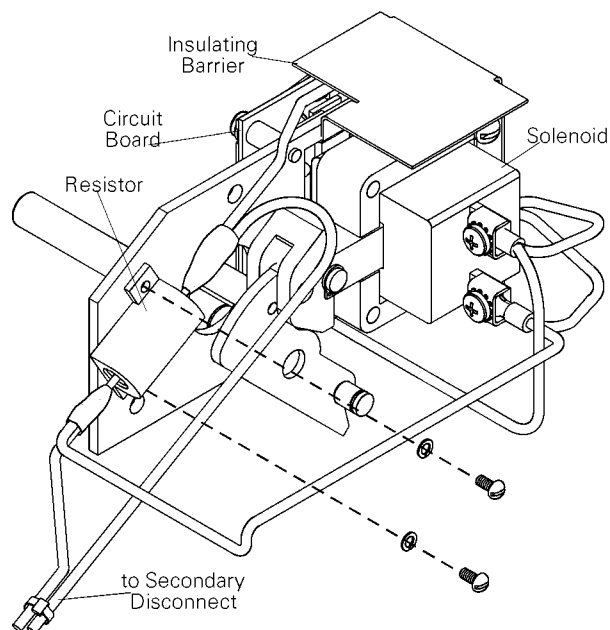
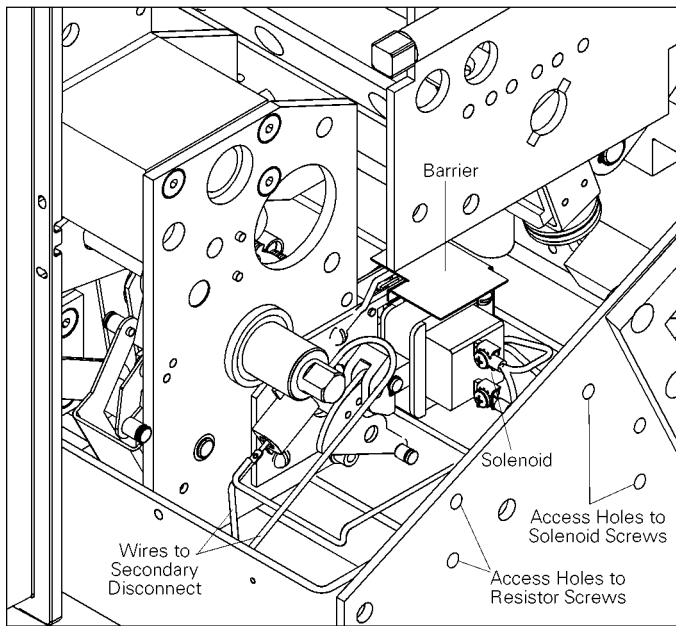

Figure 8-23. Attaching or removing the resistor.
Figure 8-24. Remote close installed in the breaker, showing the locations of access holes in the breaker side plate.
3. Remove the two screws and lock washers securing the resistor to the mounting plate, as illustrated in Figure 8-23. Two access holes in the side plate, indicated in Figure 8-24, may be useful for inserting a screw driver to loosen the screws.
7. Remove the two screws C, lock washers, and spacers attaching the solenoid to the mounting plate, then remove the solenoid. Two access holes in the side plate, indicated in Figure 8-24, may be useful for inserting a screw driver to loosen screws C.
though the slots in the barrier, with the two spacers between the solenoid and the mounting plate. Two access holes in the side plate, indicated in Figure 8-24, may be useful for inserting a screw driver to tighten screws C. Slide the tab on top of the barrier into the window in the mounting plate.
5. Attach the resistor to the mounting plate with the two screws and lock washers provided, as shown in Figure 8-23. Two access holes in the side plate, indicated in Figure 8-24, may be useful for inserting a screw driver to tighten the two screws.
6. Connect the two leads with circular lugs from the circuit board to the solenoid screw connectors, as shown in Figure 8-24.